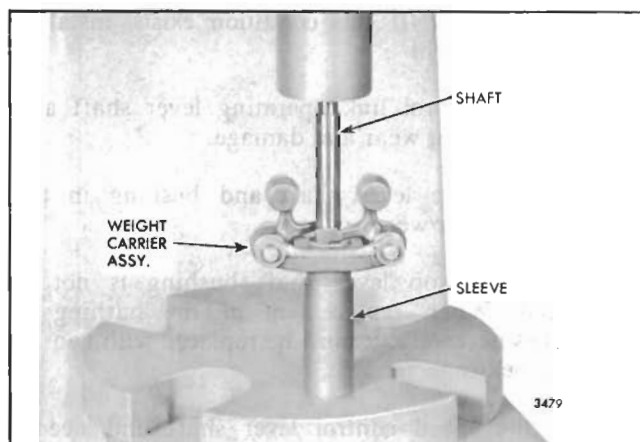

Fig. 11 - Removing Governor Weight Shaft from Weight Carrier Assembly
- a. If removal of the weight carrier assembly from the shaft is necessary, support the shaft, weight carrier and sleeve on the bed of an arbor press as shown in Fig. 11, and press the shaft out of the weight carrier assembly.